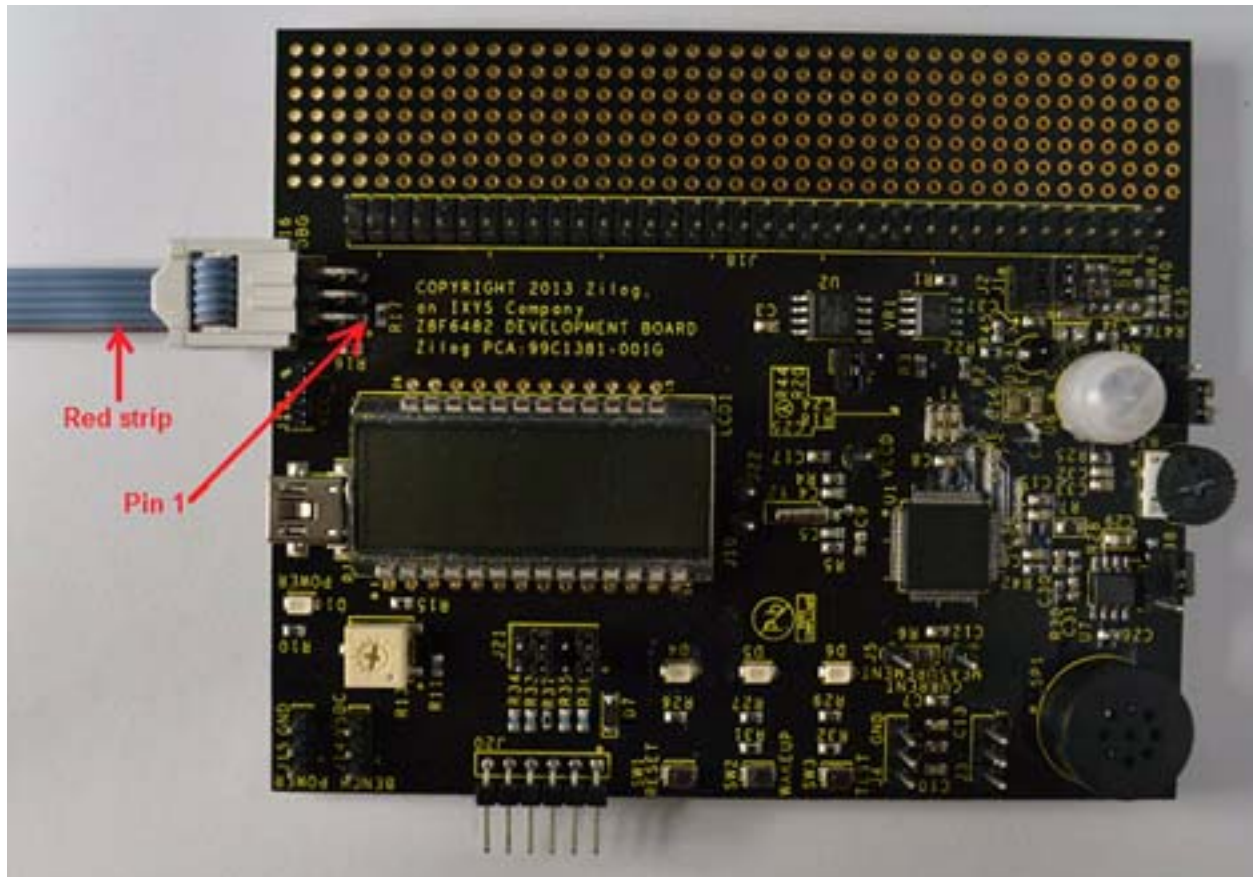

Figure 4. Debug Connector J16
3. Connect the other end of the ribbon cable to Debug Connector J16 on the Development Board. Ensure that Pin 1 on the ribbon cable is aligned with Pin 1 on the target connector, as highlighted in Figure 4.